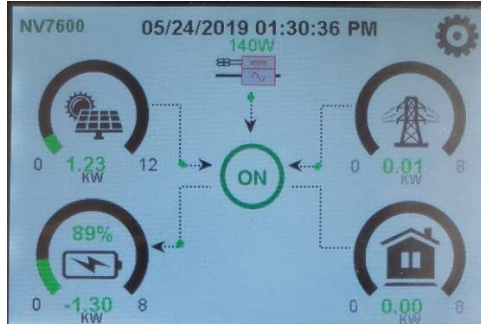

Figure 8
The NV24 Optional Battery Cabinet has four (4) conduit landing locations identified by 1/4" diameter indentations in the top right side and top left side of the enclosure (refer to Figure 8). It is the responsibility of the installer to determine the best location to punch for conduit knockouts.
The LCD Main Screen is a touchscreen display. The image below, Figure 8, shows the overall information of the NV14 Energy Storage System.